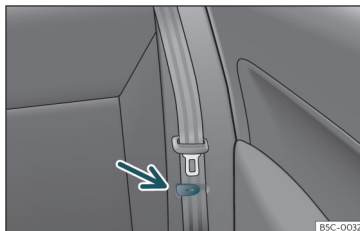

Fig. 105 Rear seat: clip to hold the seatbelt in place.
- Place the side seat belts in the trim clip »» **Fig. 105**.